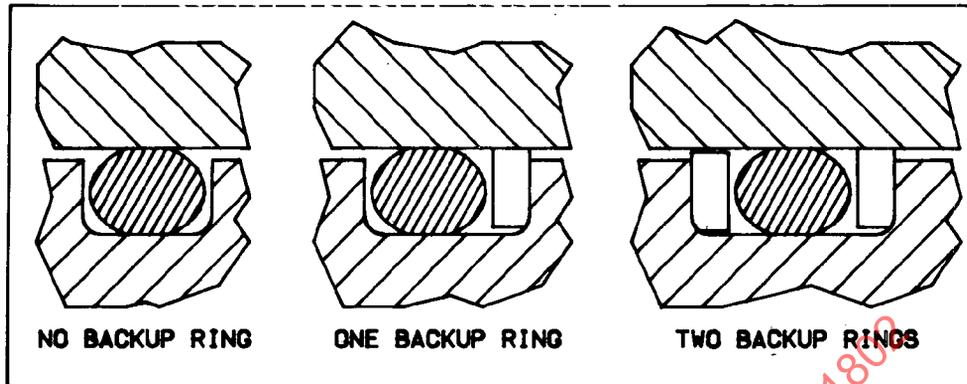

FIGURE 3
- 4.3.1 MIL-G-5514 Glands: O-Ring Glands are identified either as a NO Backup Ring Gland, a ONE Backup Ring Gland or a TWO Backup Ring Gland (Figure 3), and as an Internal Gland (for I.D. or rod sealing) or an External Gland (for O.D. or piston sealing). The diametral extrusion clearances resulting from using the standard dimensions and tolerances are intended for sealing with normal hydraulic operating pressures up to 3000 psi, and with hydraulic fluid temperatures within the range of -65°F to +275°F when used with backup rings. The NO Backup Ring Gland configuration may be used at pressures below 1500 psi. Higher pressures and/or higher temperatures may require extrusion clearances that are less than those provided by the standard dimensions of MIL-G-5514, and/or may require special backup ring configurations and materials.